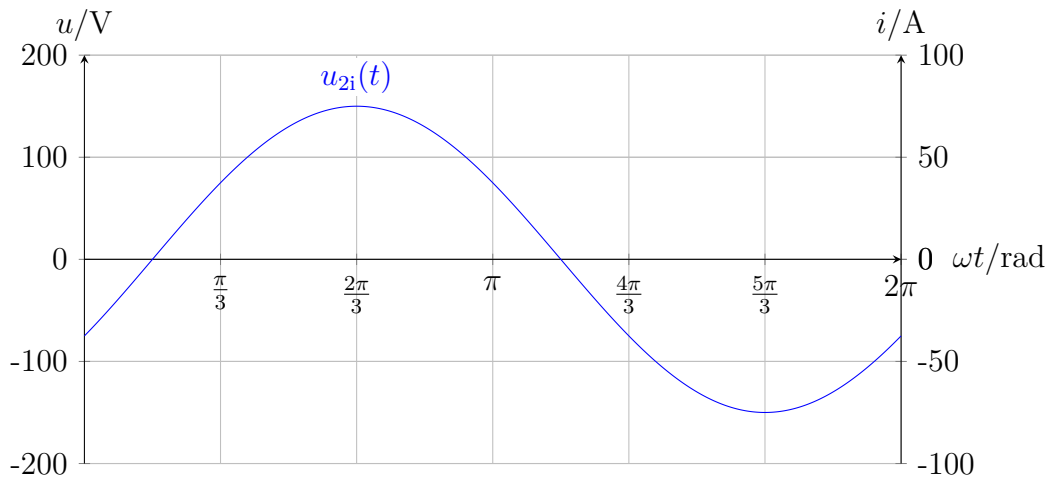

Figure 7.1.3: Internal load voltage  $u_{2i}(t)$ , fundamental voltage and current components  $u_2^{(1)}(t)$  and  $i_2^{(1)}(t)$ , respectively.
7.1.2 Calculate the amplitude  $\hat{i}_2^{(1)}$  and the phase angle  $\varphi^{(1)}$  of the current fundamental component  $i_2^{(1)}(t)$  compared to  $u_{2i}(t)$ , and draw  $u_2^{(1)}(t)$  as well as  $i_2^{(1)}(t)$  in Fig. 7.1.3.